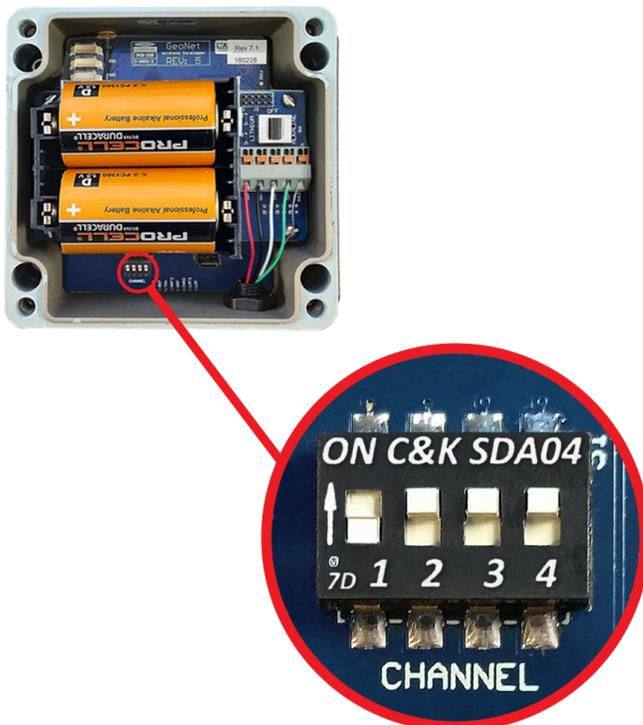

Figure 5 - Channel Select Switches
- 2) Set the channel select dipswitches (shown in Figure 5) to one of the 12 valid positions listed in Table 1.